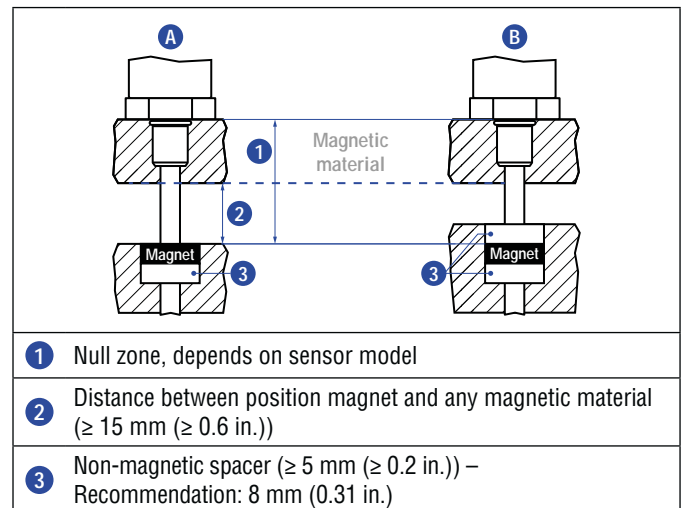

Fig. 32: Installation with magnetic material
- Minimum distance between position magnet and any magnetic material has to be 15 mm (0.6 in.) (Fig. 32).
- If no other option exists and magnetic material is used, observe the specified dimensions (Fig. 32).
When using magnetic material the dimensions of Fig. 32 must be observed.